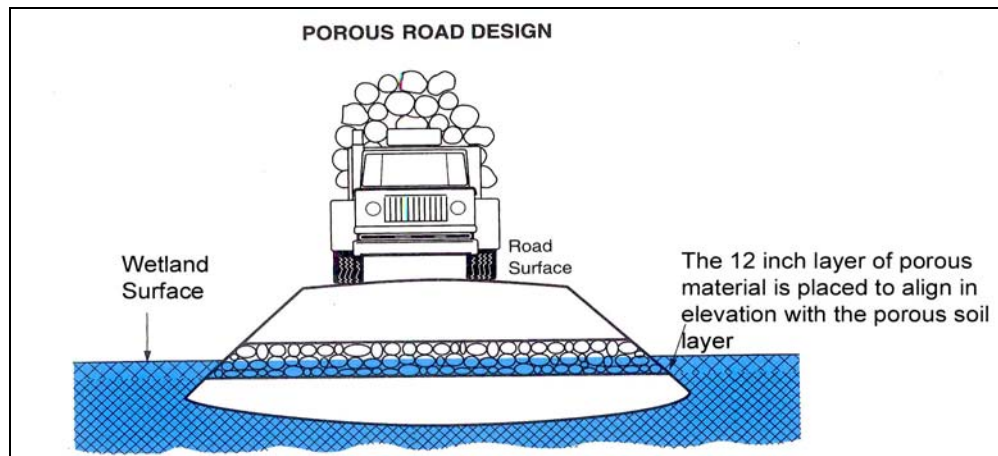

Figure 22. Porous Road Design Using Large Stone.
- The road should be constructed across the top of the soil surface by placing fill material on top of geotextile fabric, while allowing for cross drainage via the use of a 12 inch thick layer of porous material such as large stone into the roadbed (see Figure 22). This material should be separated from the adjacent fill layers by geotextile fabric, and be incorporated into the road fill design so as to lie in the top 12 inches of the soil to provide continuous cross drainage.